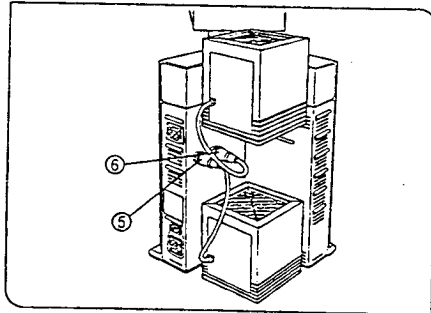

Fig. 13
3. Insert the cord plug from the transmitted light lamp housing securely into the power outlet ⑤. Insert the cord plug from the reflected light lamp housing securely into the power outlet ⑥. (Fig. 13)